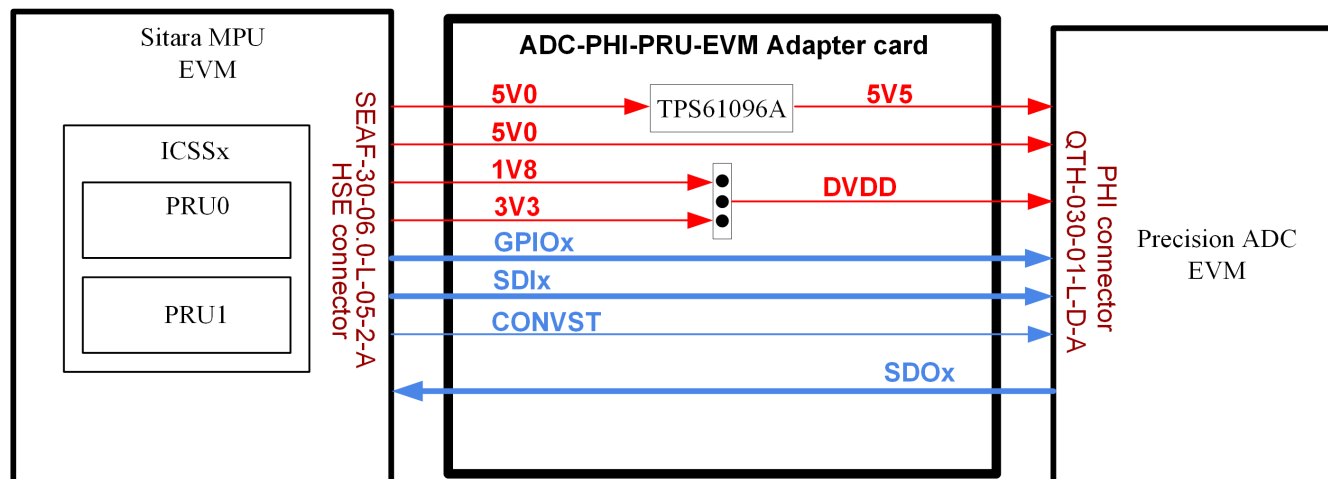

Figure 2-1. ADC-PHI-PRU-EVM System Architecture
Figure 2-1 shows the two main connectors of the ADC-PHI-PRU-EVM adapter card. The 150-pin high-speed expansion (HSE) connector is on the left and mates with the AM64x and AM243x general purpose (GP) development platform HSE connectors. The 60-pin Q-strip (QSH) connector is on the right and mates with the precision ADC EVMs listed in Table 3-1. Three jumpers (J2, J9, and J11) on the ADC-PHI-PRU-EVM select the following settings: